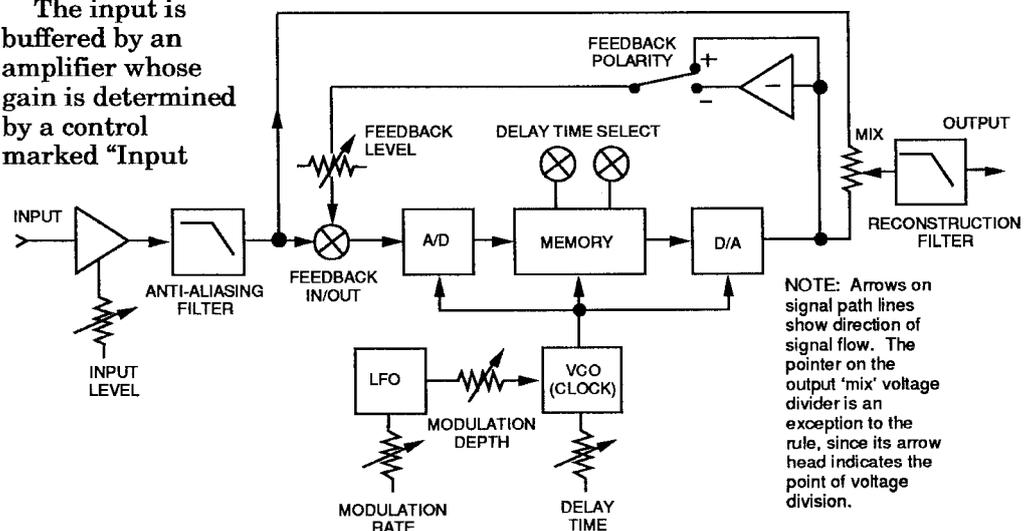

Figure 7-12. Digital delay block diagram
**EXAMPLE 3.** Figure 7-12 shows the block diagram of a digital delay unit.